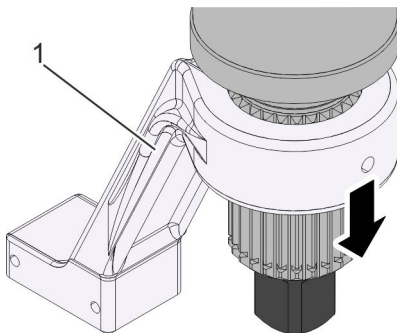

Fig. 17: Removing the reaction arm
2. ➤ Remove the reaction arm. To do so, first remove the circlip and slide out the reaction arm (Fig. 17/1) downwards.